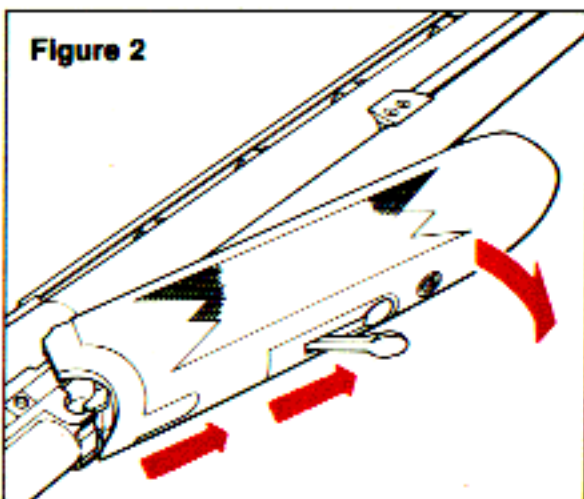

Figure 2
(1) After unwrapping the barrel/forearm assembly and receiver/stock assembly, wipe excess rust preventive oil from the monobloc and inside surfaces of the receiver. Swab the bore with a clean cloth patch on a cleaning rod to remove any excess oil.
(2) Pull outward on forend latch lever and pull wood forearm outward and forward, separating it from the barrel assembly as shown in Figure 2.
(1) Check both chambers to be sure that the gun is *unloaded*.
(2) Pull out the forend latch lever and separate the forend assembly from the barrels as in (2) above (See Figure 2).
(3) Push the top lever all the way to the right and break the gun, pivoting the muzzle end of the barrels downward and lifting the barrel assembly out of the receiver as the integral trunnions are disengaged from their corresponding recesses at the front end of the monobloc.
(4) Replace the forend assembly onto the barrel assembly by aligning the forend latch hook with the forend latch lever and snapping together.